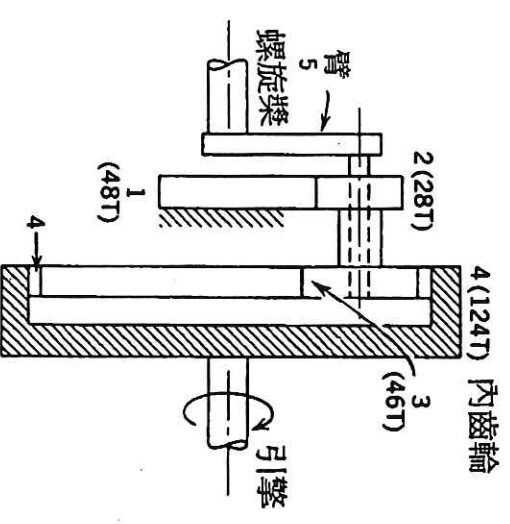

Fig. 8 Planetary gear train
9. For a gear pair with module $m=1.5$ and pressure angle $\phi=20^\circ$, a pinion($N=24$) drives a gear ($N=72$). Please find (a) Contact length (L_c), (b) Contact ratio (γ_c). If center distance (C) increases 0.04mm, please find (c) New pressure angle $\phi'=?$, (d) new Contact length (L_c'). (15%)
10. For the planetary gear train shown in figure 8, if $\omega_4=3600\text{rpm}$ (CCW), please find ω_5 (value and its direction). (15%)